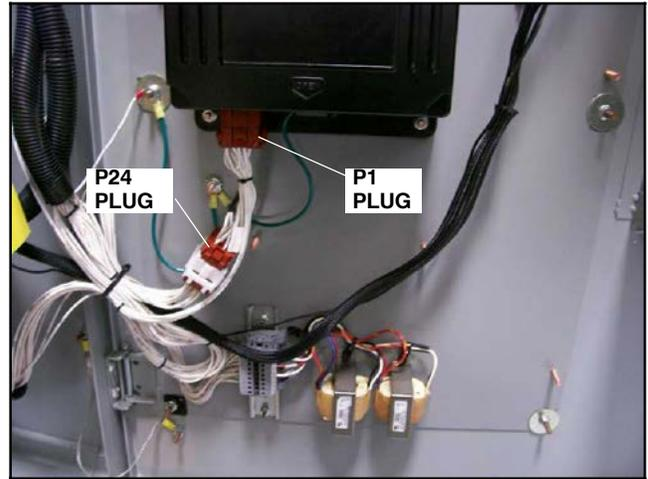

Figure 36 Conversion Kit Harness Connection to Controller Assembly (PTIB not shown)
30. Connect plug P24 of conversion kit harness GM77827 to contactor harness plug P24, which was disconnected from the M340+ controller in step 13. See Figure 36.
31. Connect plug P1 of the conversion kit wire harness to the MPAC 1500 controller. See Figure 36.